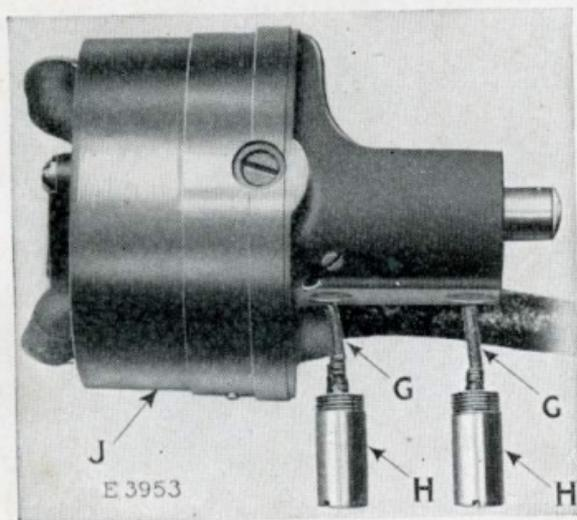

FIG. 30. VIEW OF MOTOR, SHOWING GREASE CUPS REMOVED with sufficient lubricant for one year's use, under ordinary circumstances.
1. When the machine is shipped from the factory, the two motor grease cups (HH, Fig. 30) are filled
- (c) Withdraw the entire motor (J, Fig. 30) from the machine by turning it slightly from side to side and at the same time pulling it toward you. The motor should only be withdrawn far enough to expose the two
grease cups (HH, Fig. 30). Do not disconnect any of the electric wiring of the machine or the motor.
- (d) Unscrew the two grease cups (HH, Fig. 30).
- (h) Replace the grease cups, being sure that the wicks (GG, Fig. 30) enter the small holes which lead to the armature shaft.